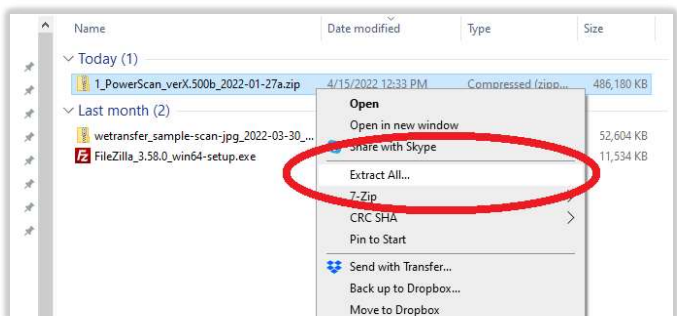

Figure 24
6. Right click on the zipped folder, then click *extract all*. *Figure 24*